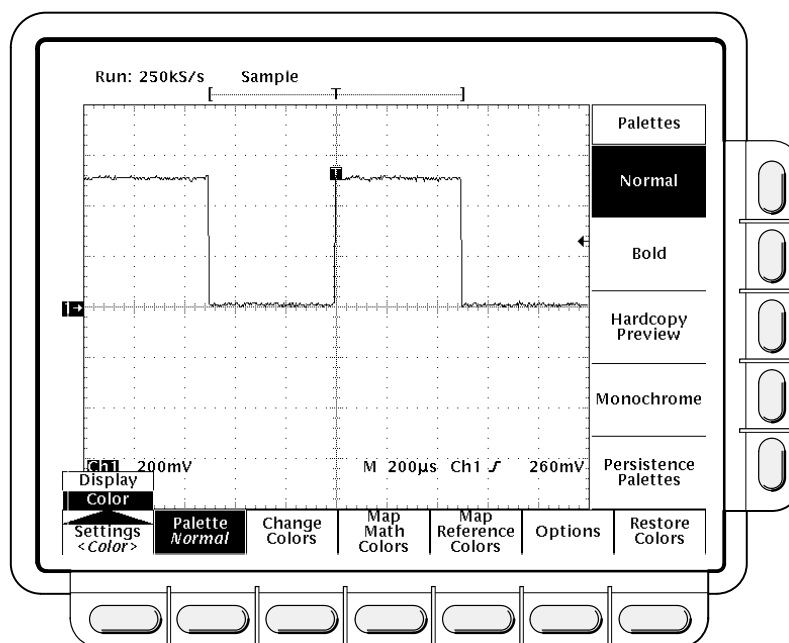

Figure 3-4: Display Menu — Setting
2. Press **Settings** in the main menu until you select **Color** from the pop-up menu (see Figure 3-4).